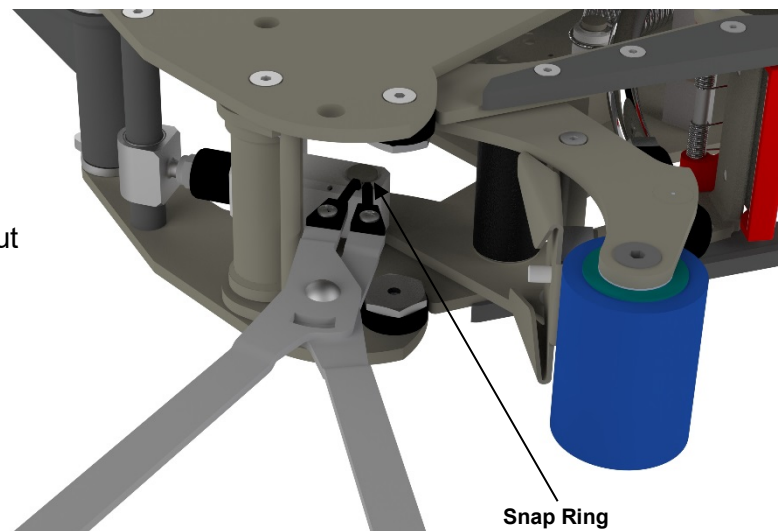

Figure 10-10
5. Reinsert retaining ring to the groove. Should the 10 mm retaining ring get damaged replace it with a new one. **(Figure 10-10.)** Calibrate the spring pressure with the M6 nylon lock nut as described earlier.